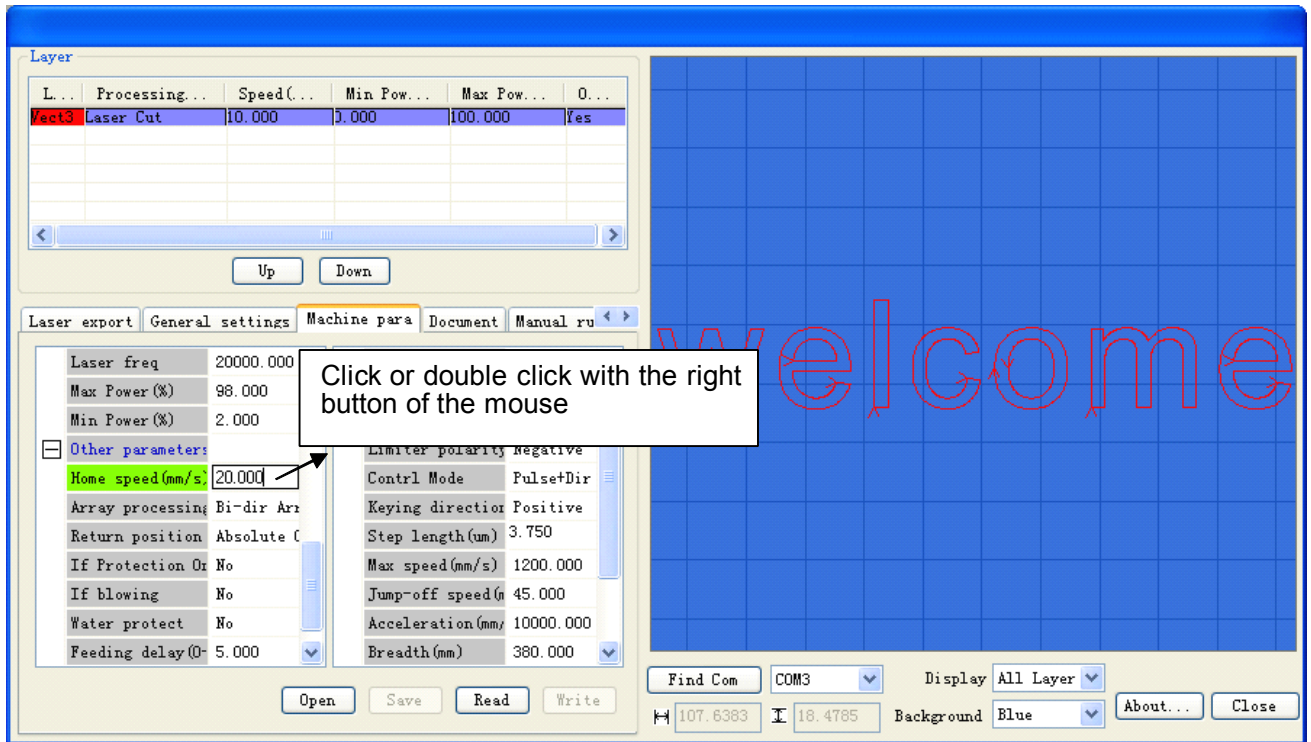
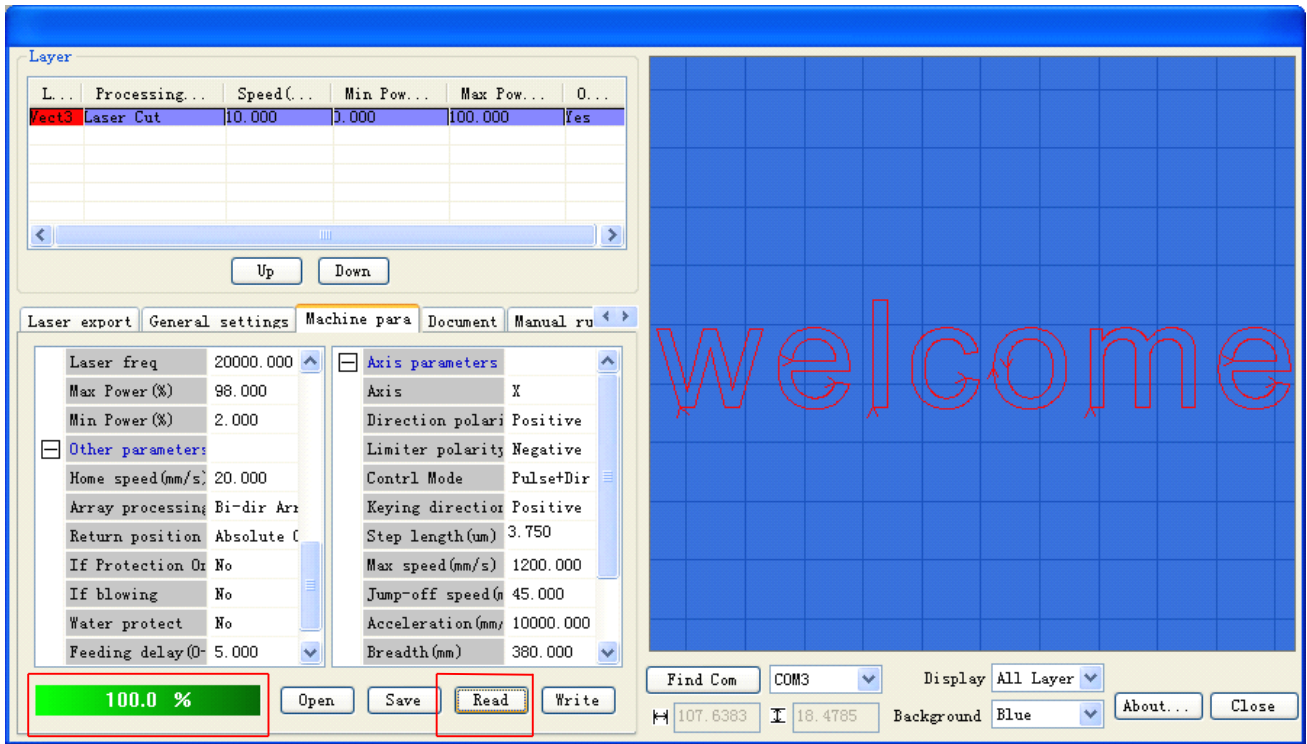
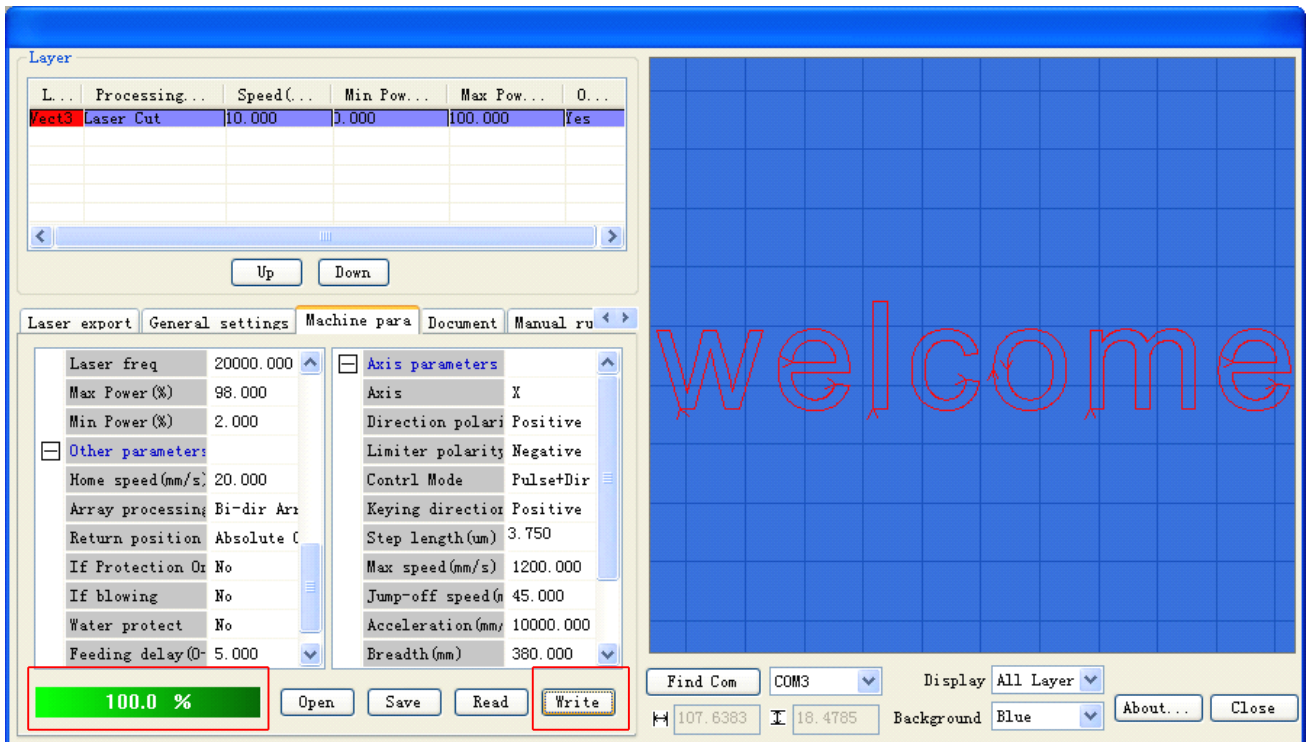

Figure 1-49
Figure 1-50
Figure 1-51
For example, to modify the *reset speed*, please see Figure 1-49:
As shown in Figure 1-49, click or double click on *reset speed*, you'll see a input box here, and then just input the required value of *reset speed*.
Procedure: as shown in Figure 1-49, click on the *Open* button; select the parameter file to be opened from the pop-up dialog box, and then click on the *Open* button in the pop-up dialog box, then the values of the parameters in the parameter files will be shown in the menu.
The Save operations can be carried out only when the Save button is activated (it is inactivated if it's grey; this button will only be activated when there's machine parameter read from the machine or parameter file opened), you can click on the Save button to save machine parameters on the menu to files so as to write parameters to the machine with the saved parameter files. Procedure: as shown in Figure 1-49, click on the Save button, input the file name in the pop-up dialog box, and then click on the Save button in the pop-up dialog box. Thus, the machine parameter on the menu is saved to the file.
Procedure: as shown in Figure 1-49, select the correct USB port first, and then click on the *Read* button, after a short while, if the parameter is successfully written, the menu as shown in Figure 1-50 will appear:
Operation procedure: as shown in Figure 1-49, select the correct USB port first, and then click on the *Write* button, after a short while, if the parameter is successfully written, the menu as shown in Figure 1-51 will appear:
In the menu shown in Figure 1-49, click or double click on *Step length*, the menu as shown in Figure1-52willappear:
- ③ Enter the menu as shown in Figure 1-49, click on the *Read parameter* button to correctly read the machine parameters of the current machine.